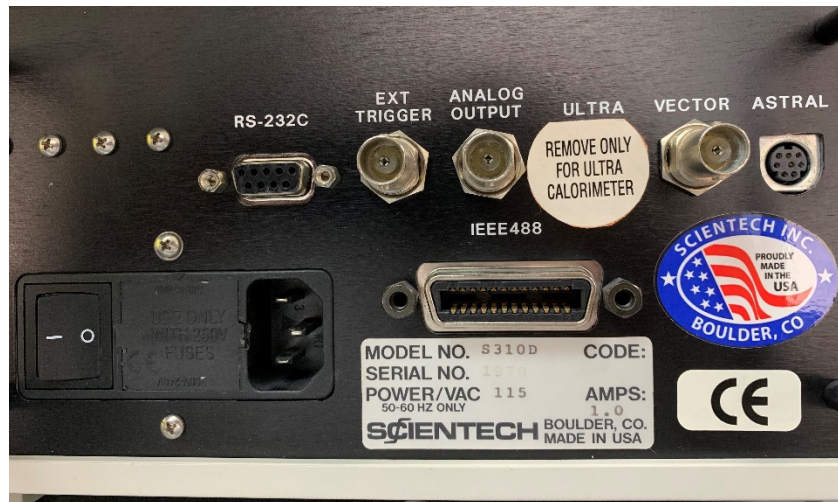

Figure 1. S310 Rear Panel
1. Refer to Figure 1. Locate the power entry module and the fuse holder in the center of the module.
Refer to the drawing of the S310 rear panel in Figure 1. A 3-meter mini-DIN type cable with "D" shaped connectors comes with Vector calorimeters, including the large aperture calorimeters. A 3-meter BNC type cable comes with Vector pyroelectric detectors and Vector HR pyroelectric detectors. To connect the Vector detectors, the input connectors on the rear panel of the S310 are labeled as follows: